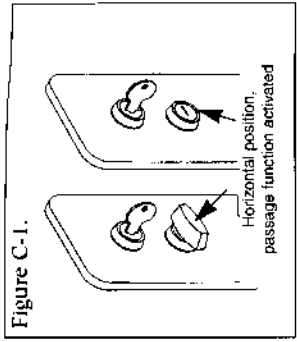

Figure C-1.
3. Keeping the outside lever in its turned position, rotate the passage turn knob or keyed lock to the right to the horizontal position (see Figure C-1).